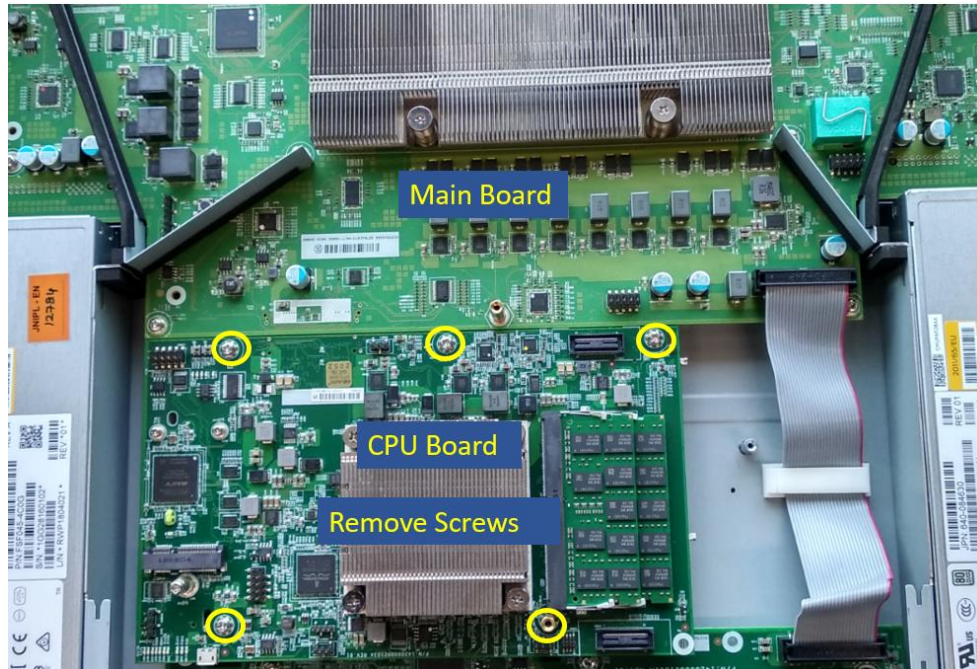

Figure 3-6: CPU Board Removal
6. Remove screws on CPU board highlighted in yellow (figure 3-6)